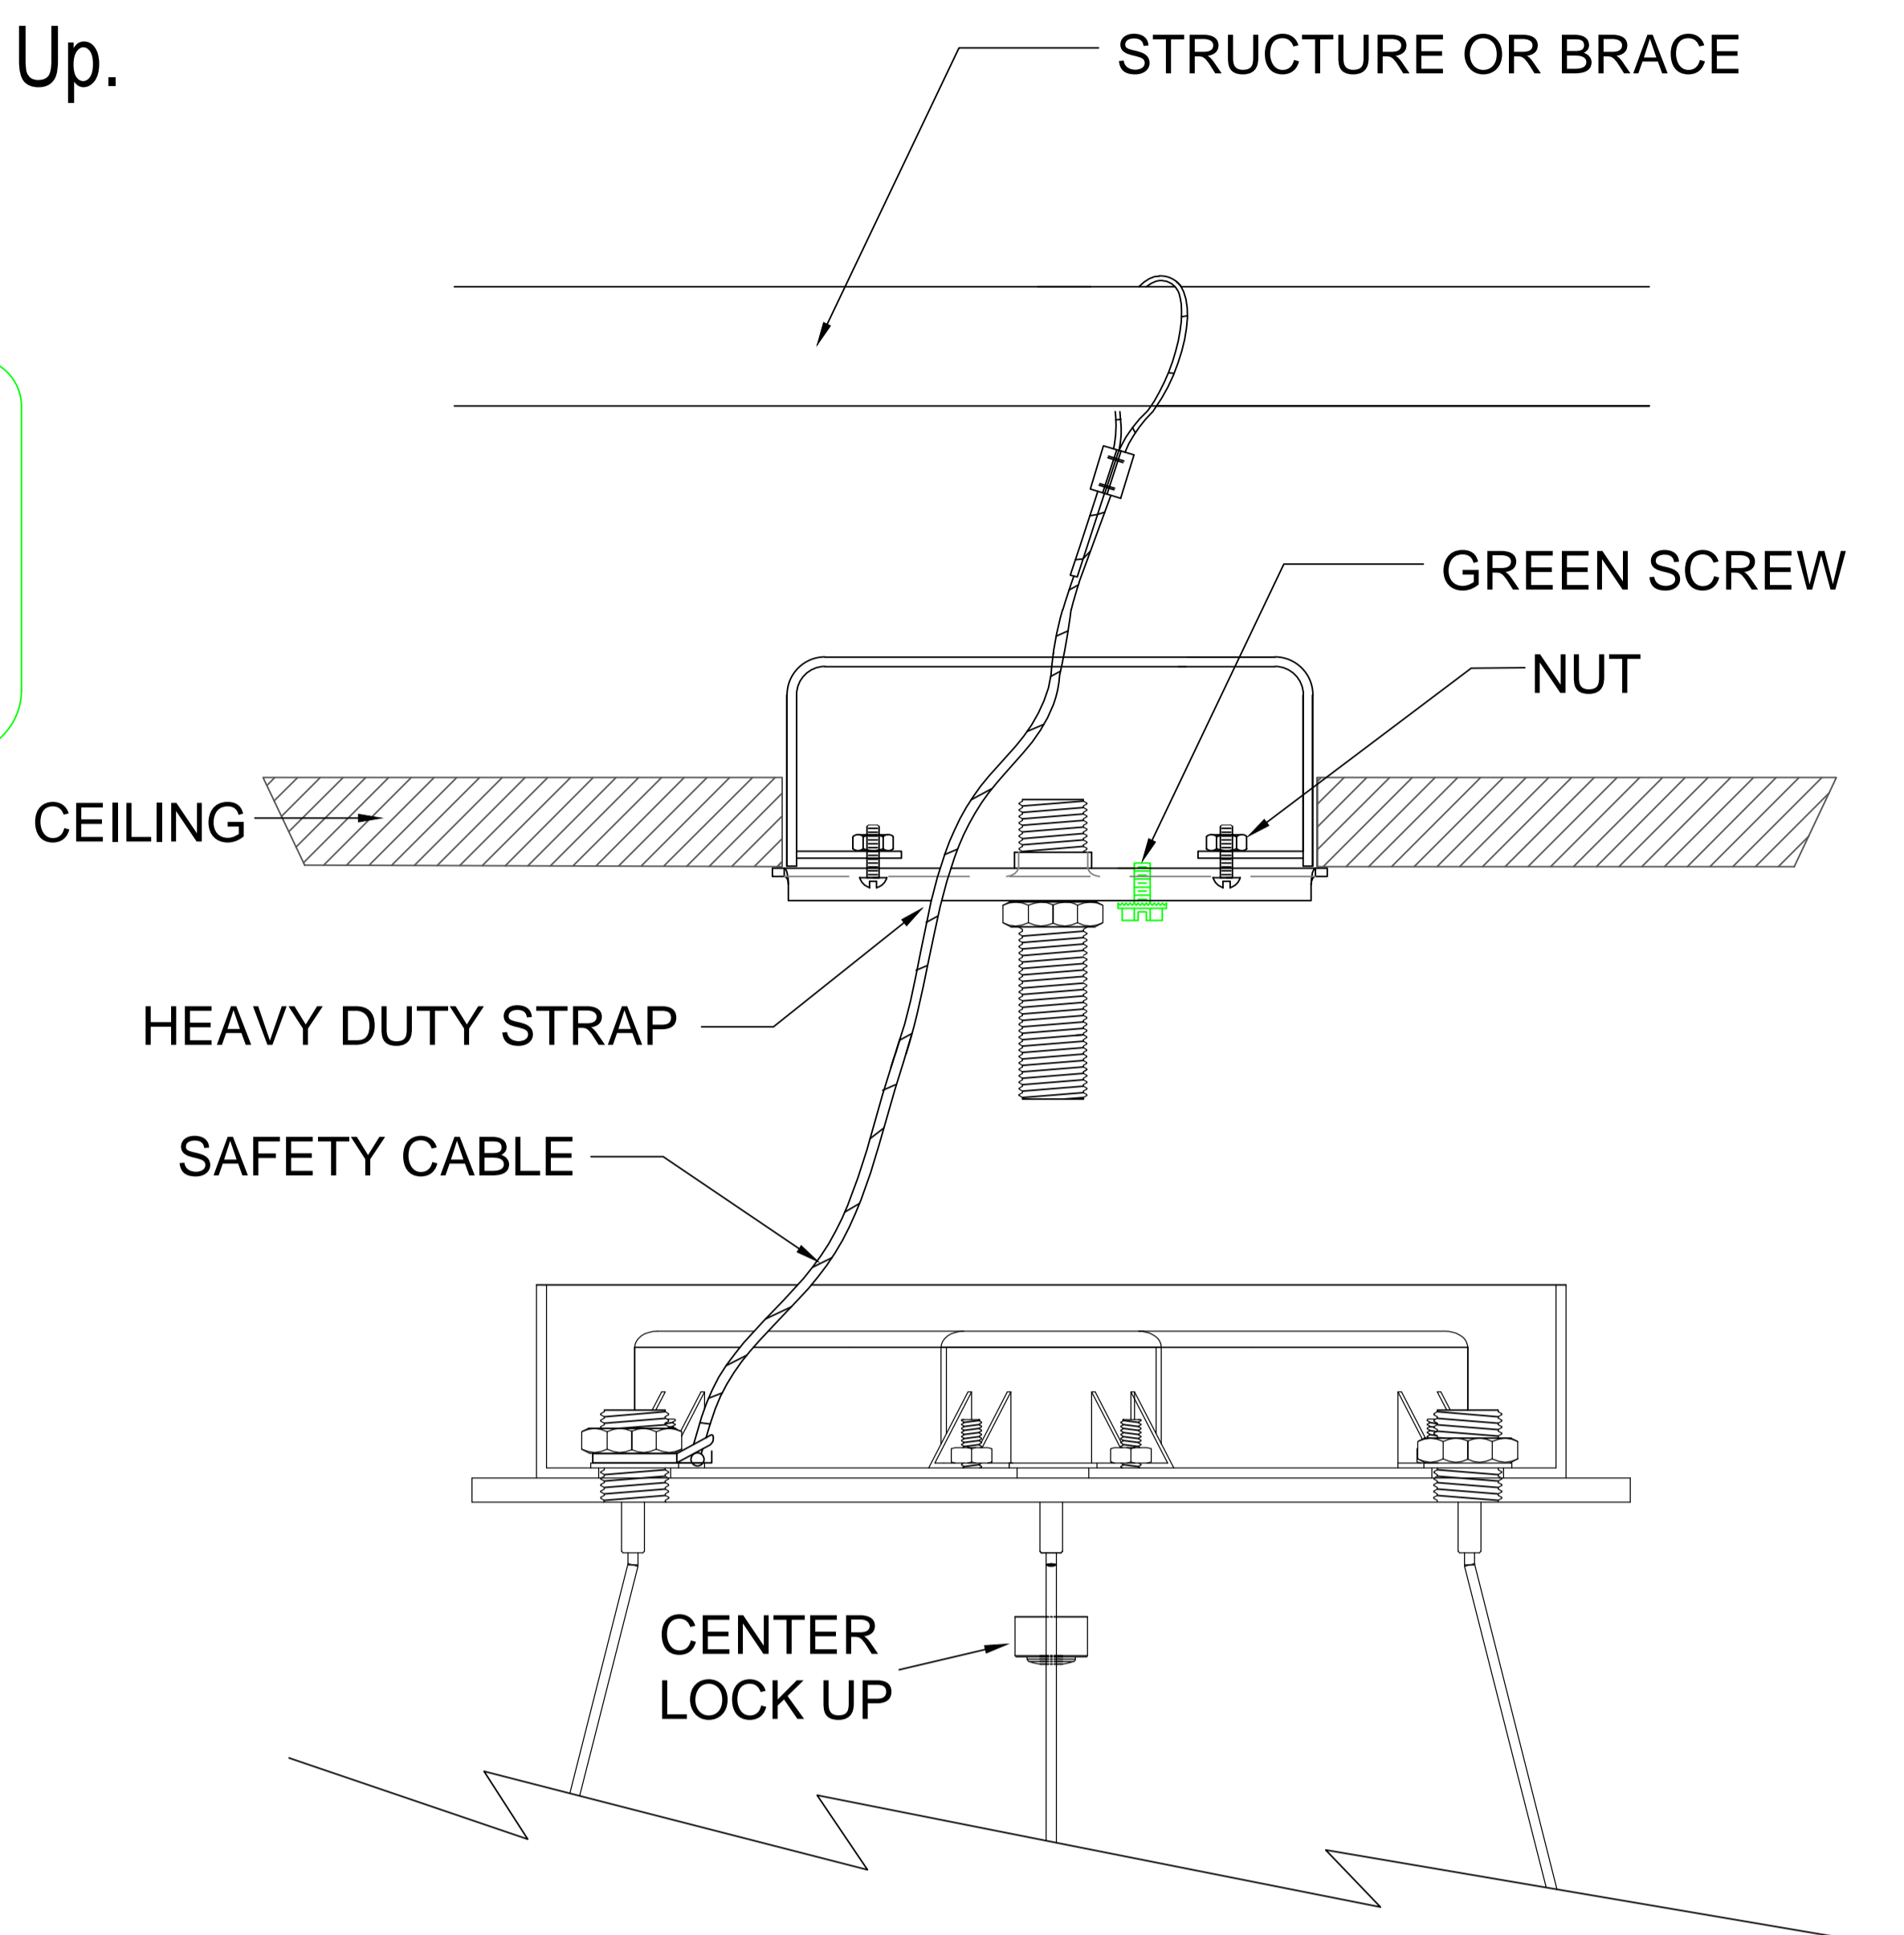

FIGURE-06
14. Attach the SAFETY CABLE to the building or structure or brace. (See figure-06)
(See Figure-06)